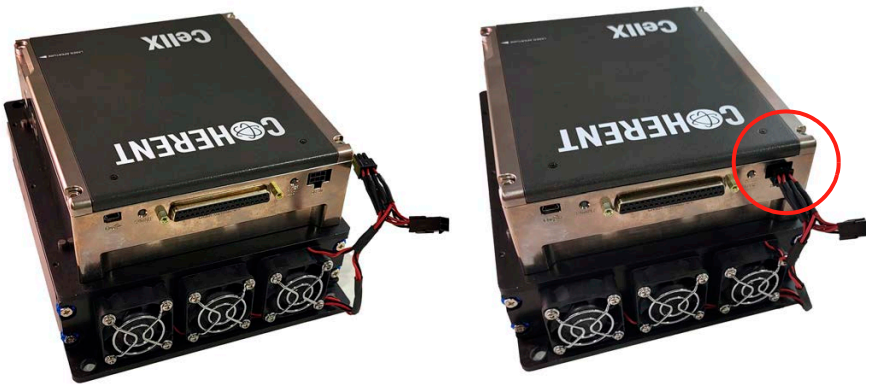

Figure 10. Connect Power - Heat Sink to CellIX
9. At the end of the two units, connect power from the heat sink to the CellIX. (See Figure 10). Do not attach the power supply at this time.